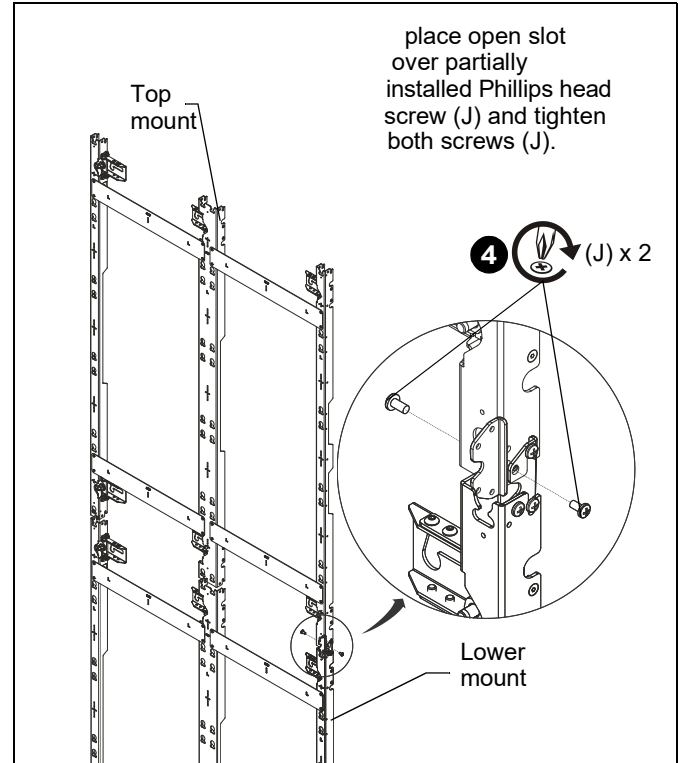
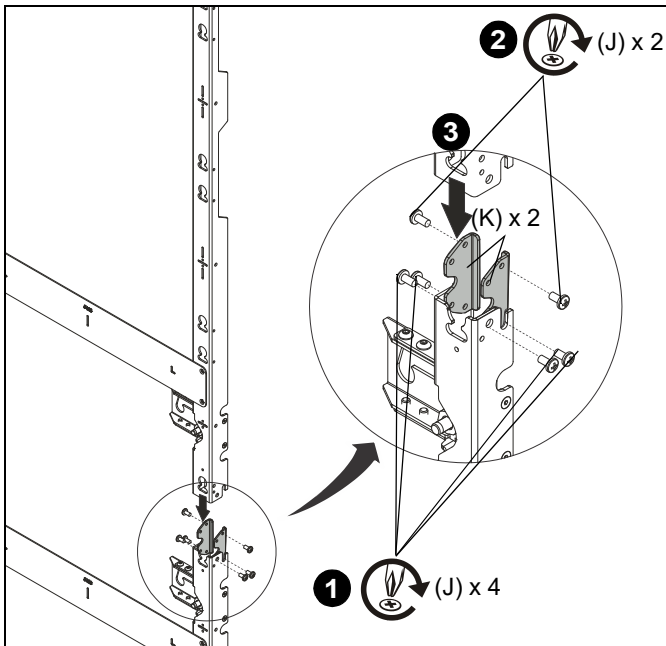

Figure 7
Figure 6
1. Add the vertical connector (K) to the top or bottom of the mount, and fasten with four 1/4-20 x 1/2" Phillips pan head screws (J) per vertical connector (K). (See Figure 6)
2. Partially install two 1/4-20 x 1/2" Phillips pan head screws (J) into top or bottom screw holes on connectors (K). (See Figure 6)
3. Connect another wall mount to the other end of the vertical connector (K) by placing open slot over partially installed screws (J). (See Figure 6) and (See Figure 7)
4. Install two 1/4-20 x 1/2" Phillips pan head machine screws (J) into inside holes on connectors (K). (See Figure 7)
5. Tighten screws partially installed in Step 2 to secure mount to connectors (K). (See Figure 7)
NOTE: When connecting a mount to the bottom of an **installed** mount, the lower mount may be hung by its open slot on the partially installed Phillips head screw (J) before tightening the connection. (See Figure 7)